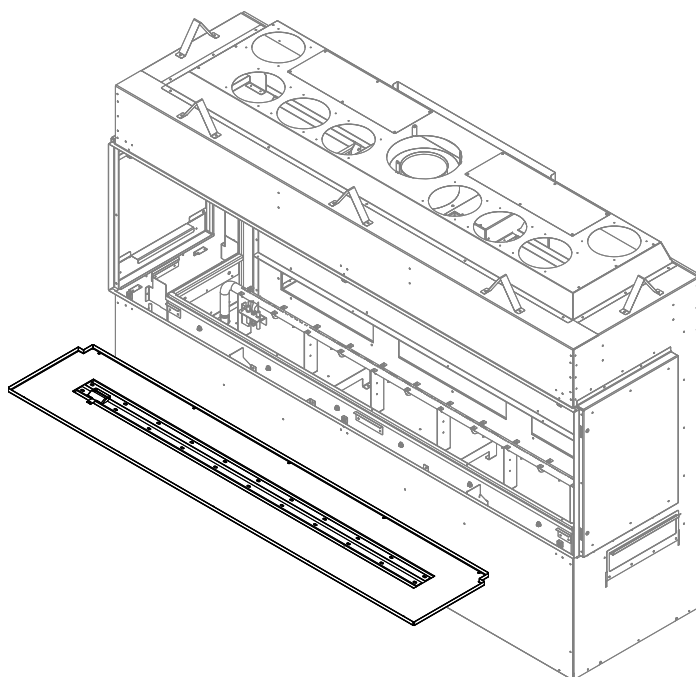

Figure 7.19 - Burner Media Tray and Burner Tube Removal
4. Remove all the sheet metal screws around the perimeter of the burner media tray and all sheet metal screws along the center of the burner. Remove the burner media tray and burner tube. Figure 7.19.